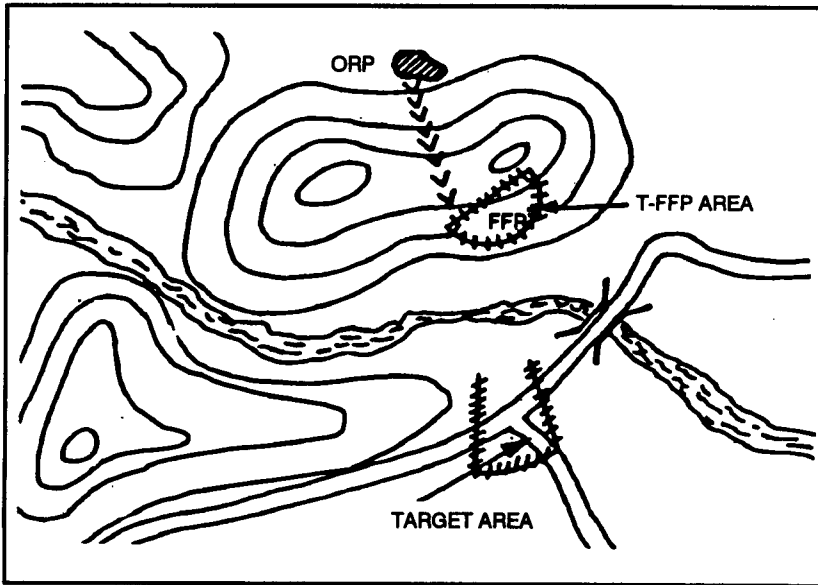

Figure 4-8. Tentative position areas.
a. From the ORP, the team moves forward to a location that allows the team to view the tentative position area (Figure 4-8 page 4-16). One member remains in this location to cover the other member who reconnoiters the area to locate a final position. Once a suitable location has been found, the covering team member moves to the position. While conducting the reconnaissance or moving to the position, the team—